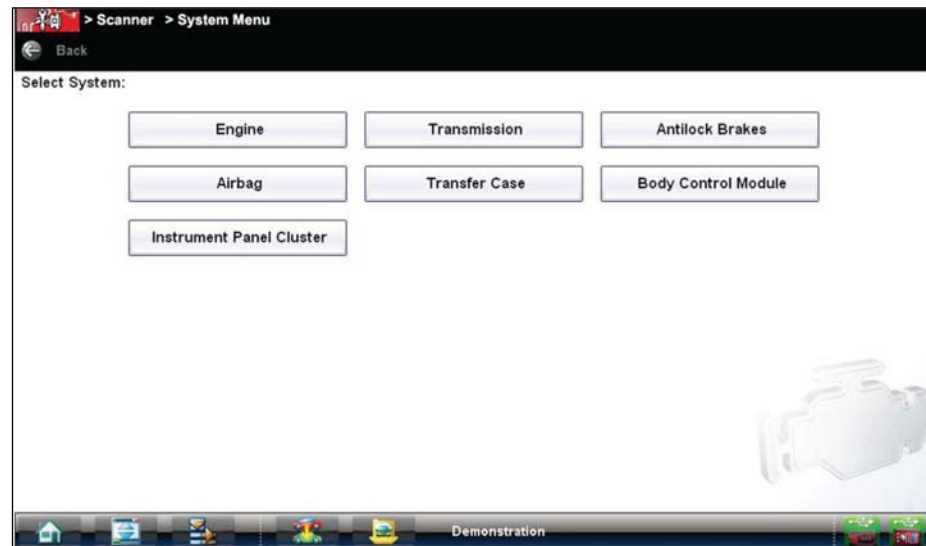

Figure 4-17 Systems menu
1. After the vehicle has been identified, a list of available systems for testing displays (Figure 4-17). Select a system to continue.